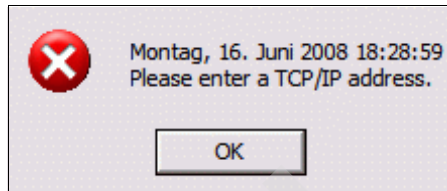

Figure 5-25 IBM System i operator console
5. If this is a first-time connection, the console will respond as shown in Figure 5-25 on page 241.